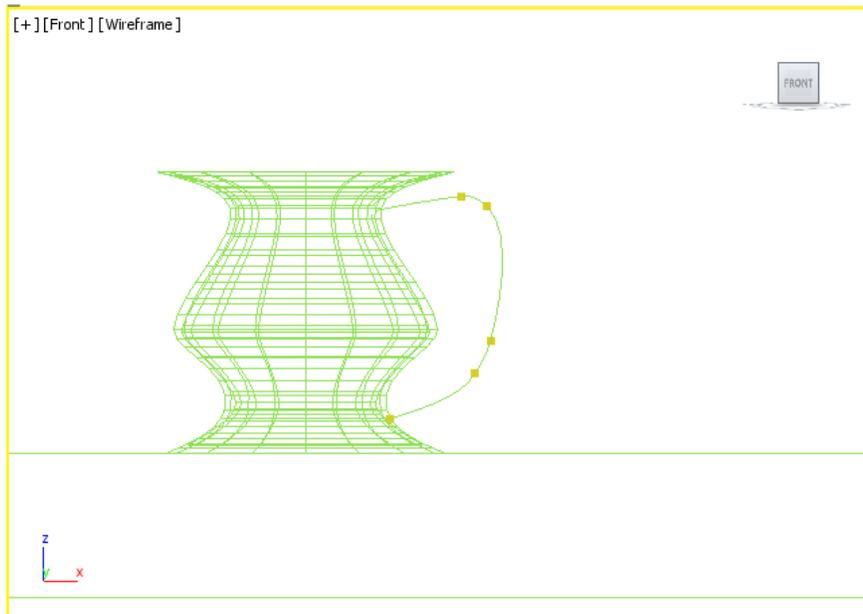

Figure 5-18 The Handle modified by moving the bezier handles of the vertices
- Invoke the **Select and Move** tool from the **Main Toolbar** and right-click on the second vertex. Choose **Bezier** from the quad menu and then move the *Handle* to get the desired curve. Similarly, modify the rest of the vertices of the *Handle* as needed to form a curved shape, as shown in Figure 5-18.